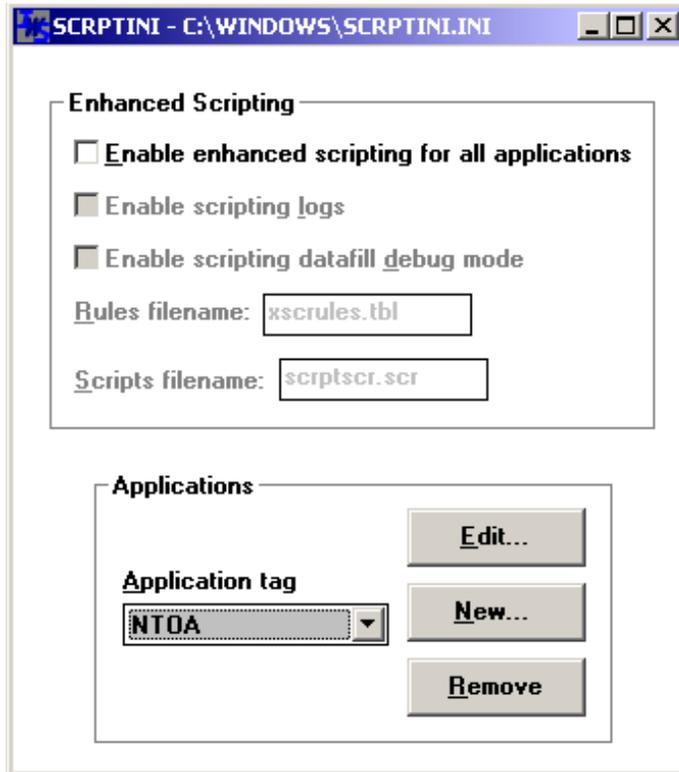

FIGURE 84. SCRPTINI configuration window for standard scripting
3. By default, parameters that relate to enhanced scripting are grayed out. (See Figure 84.)